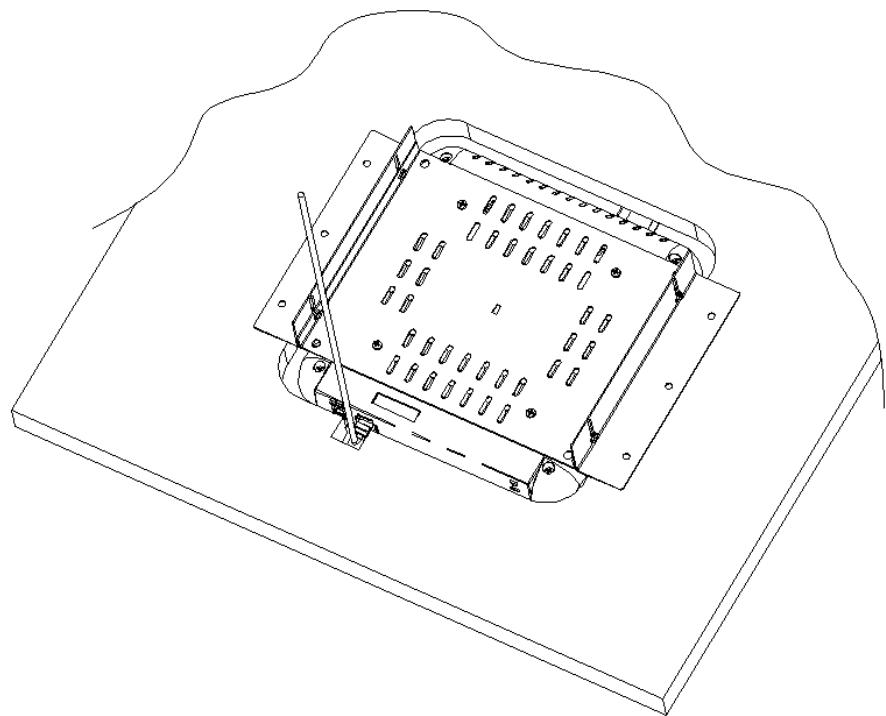

Figure 10: Finished Side of Tile
5. Bring entire assembled kit (including tile) to suspended ceiling and attach LAN cable into BSAP-1800 unit as shown in Figure 10. If cable is tight, shift unit until cable has enough relief. After cable is wired in, place ceiling tile back to desired location. The assembly may need to shift so trim plate will cover all openings in the ceiling tile.